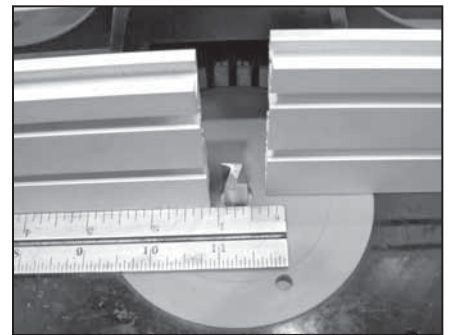

Figure 20
5. Place a straight edge along the face of the offset fence. Loosen the main fence and adjust the assembly until the straight edge touches the bit. Adjust the fence opening so that it is as small as possible without coming in contact with the bit. Secure the main fence in place. See Figure 20.